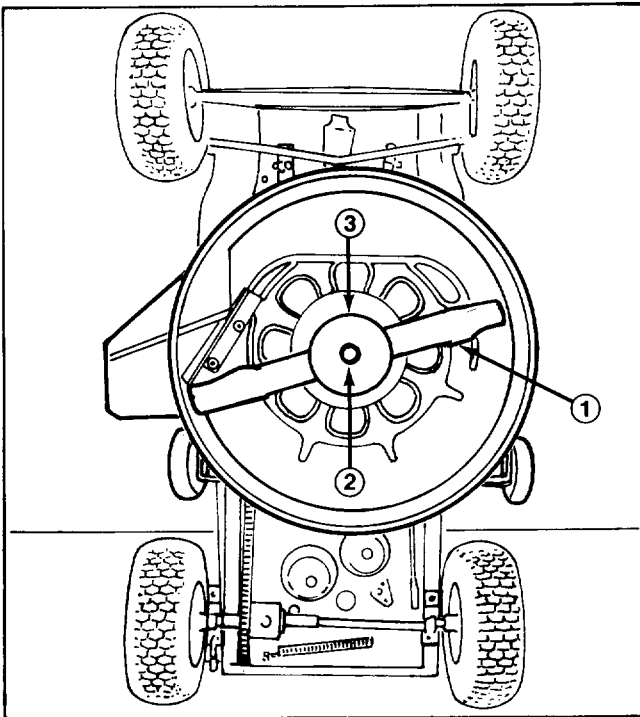

Figure 16
6. Grasp end of blade using a rag or thickly padded glove; then remove lock nut, anti-scalp cup and blade (Fig. 16).
9. In sequence, install blade, anti-scalp cup and lock nut (Fig. 16). Tighten lock nut to 45-60 ft-lb.
6. Remove grass clippings and dirt that is sticking to inside of housing (Fig. 16) by spraying with a garden hose. Scrape out grass and dirt that water does not remove from housing; then spray housing again.